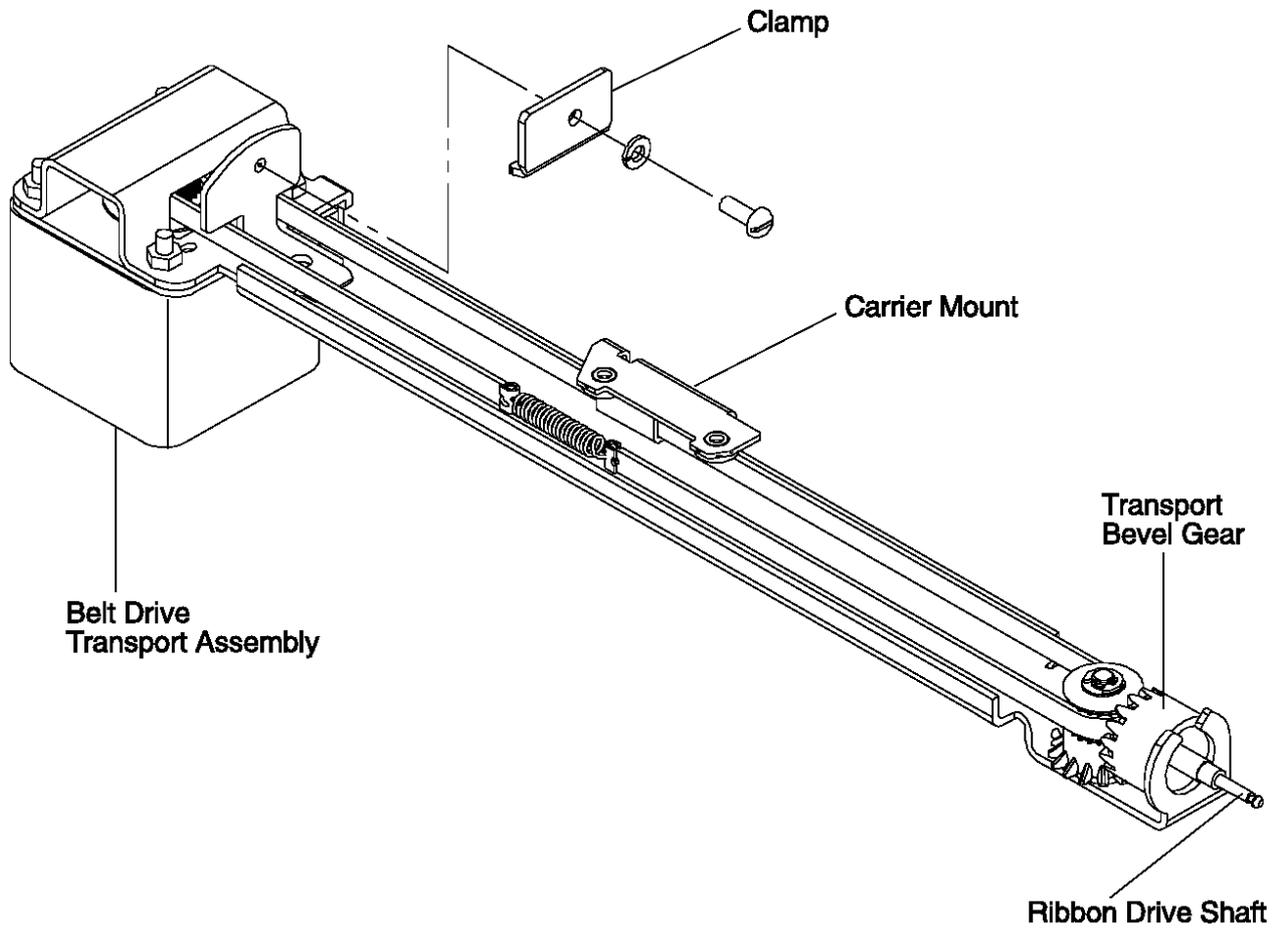

Figure 6-86. Belt Drive Transport Assembly
9. Remove the transport assembly clamp, lock washer, and screw. See Figure 6-86 in topic 6.38.36.2.
2. Assemble the transport bevel gear and ribbon drive shaft assembly onto the transport assembly. See Figure 6-86.
7. Align the carrier mount underneath the carrier and install the screws holding the print head. See Figure 6-86. Perform the print head gap adjustment. See "Replacing the Print Head" in topic 6.38.9.2.